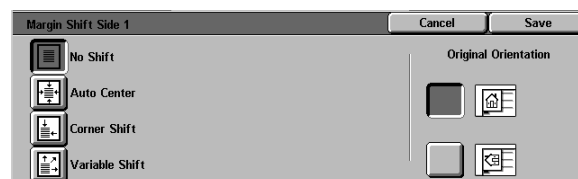

Figure 17: Margin Shift screen with No Shift selected
- 3 Touch the **No Shift** icon, as in Figure 17.